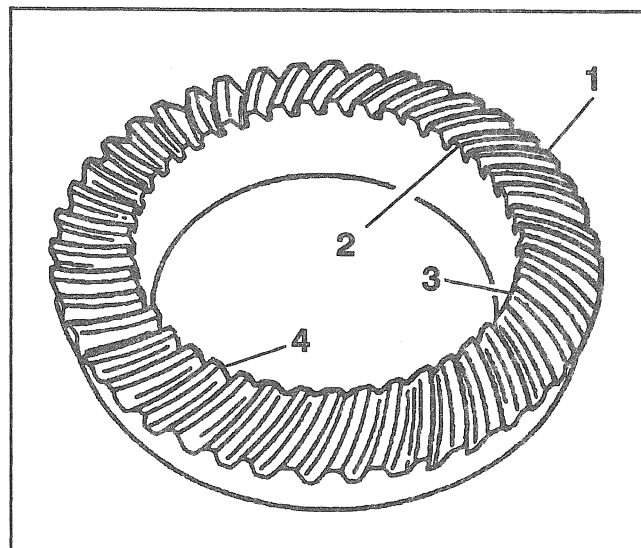

Figure 18—Gear Tooth Nomenclature
The side of the ring gear tooth which curves outward, or is convex, is referred to as the "drive" side (4). The concave side is the "coast" side (3). The end of the tooth nearest the center of ring gear is referred to as the "toe" end (2). The end of the tooth farthest away from the center is the "heel" end (1). The toe end of the tooth is smaller than the heel end (Figure 18).